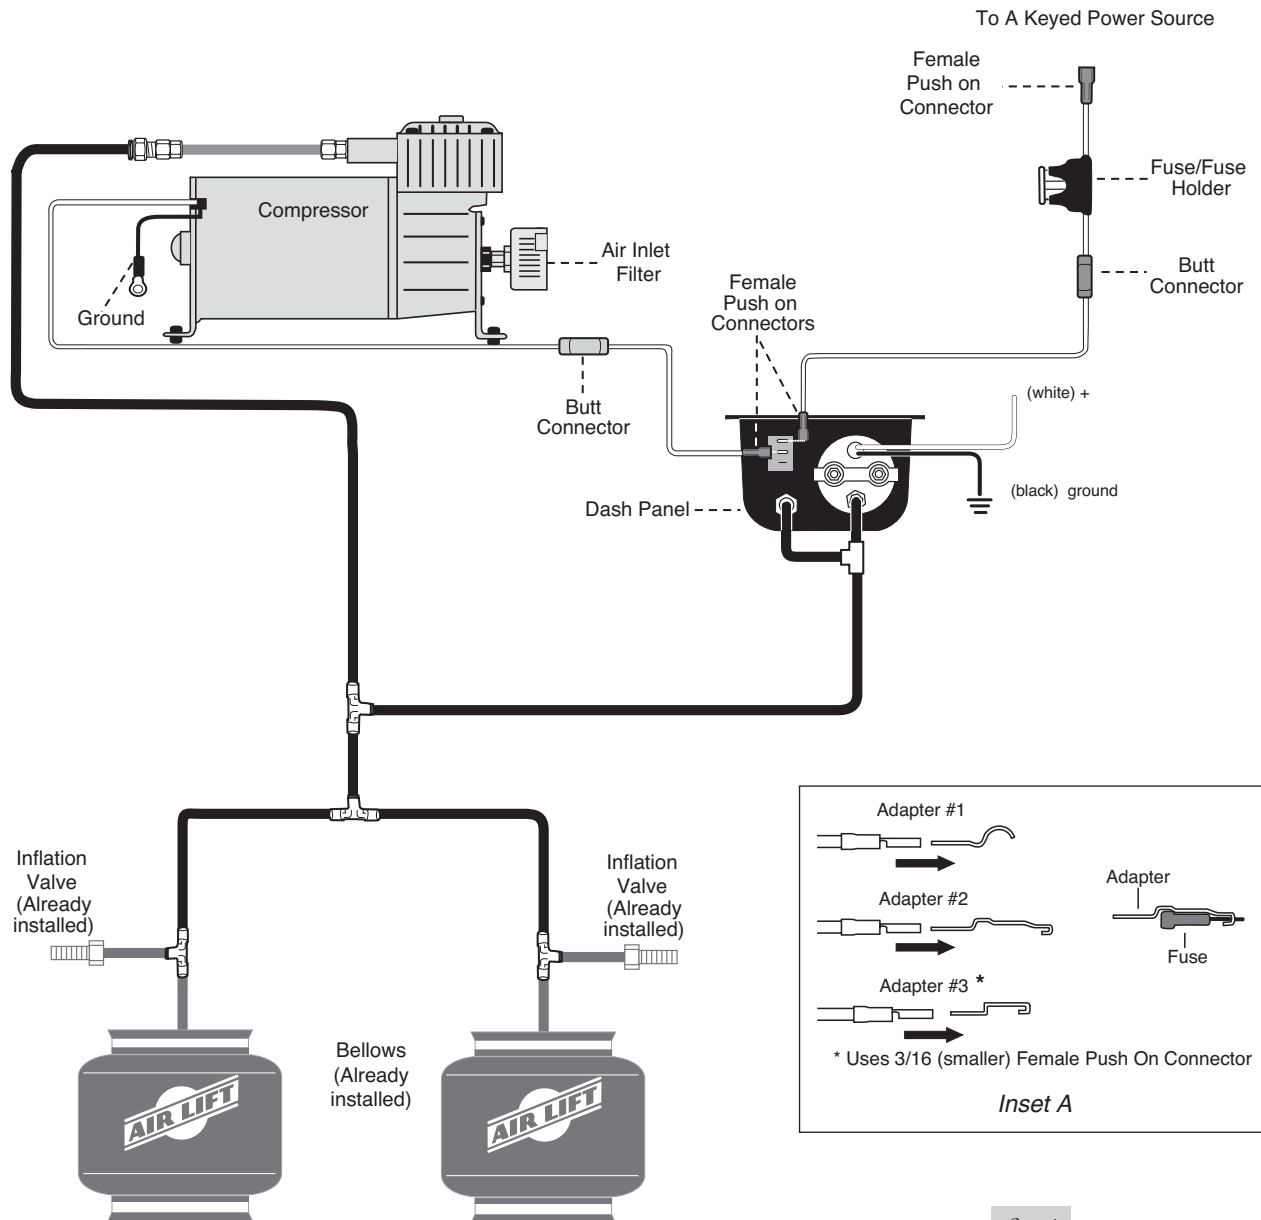

fig. 1
3. Connect the (red) wire from the panel to the (red) wire on the compressor using a blue butt connector (Figure 1). Connect the other end of the wire to the push switch using the blue $\frac{3}{16}$ female push on connector. With your thumb against the front side of the switch, push the connector onto one of the terminals on the back of the ON/OFF switch on the gauge panel.
5. Determine the length of supplied (red) wire required to connect the dash panel to the fuse assembly. Cut and crimp the wire into the butt connector (Fig. 1). Connect the other end of the wire to the push switch using the blue $\frac{3}{16}$ female push on connector. With
4. Determine the location of the third tee. Cut the air line between the first two tees and install a third (Figs. 1 & 5).
7. Determine the closest and easiest area to connect the gauge panel to the air line between the compressor and air springs. Measure the distance between these two points and cut the air line and install the last tee (Figs. 1 & 5).